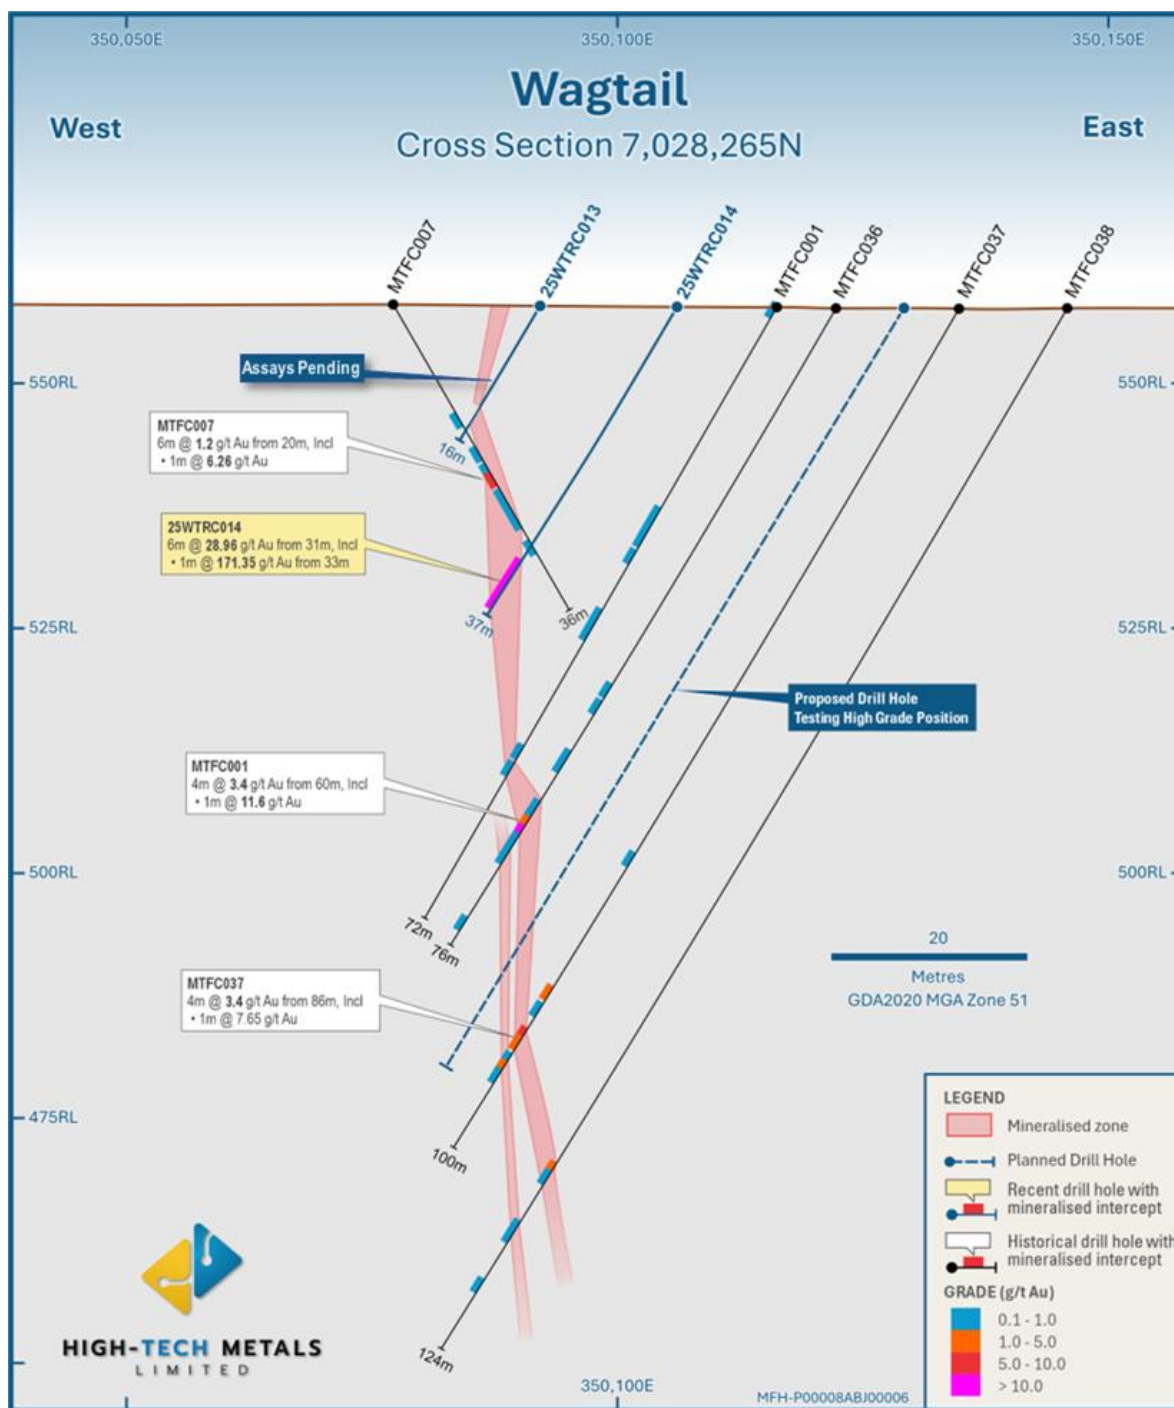

Figure 2: Section 7,028,265N with shallow, bonanza grade intersection in hole 25WTRC014.
- **1m @ 171.35 g/t Au from 33m** (25WTRC014) (refer Figure 2)